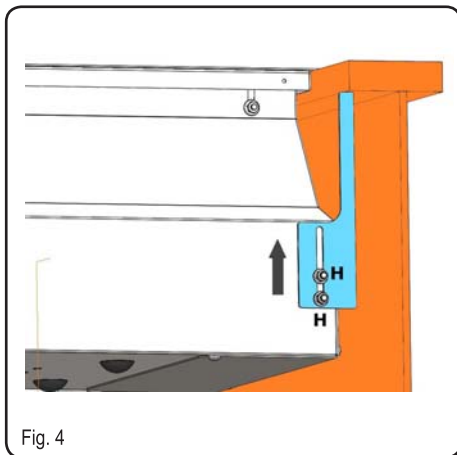

Fig. 4
5. Secure the product inside the furniture by using the specific brackets provided. Proceed to the installation of the brackets in the sides of the product, in the specific hooks, as shown in fig. 4-5. Mount the rear brackets on both sides of the product, lift them up until they touch the support cabinet and then tighten the nuts "H" (fig.4). Then fix the front bracket bringing it to touch on the cabinet by tightening the screws "I", as shown in figure 5. Be careful to pull the screws "I" gently, by hand and without using electric screwdrivers, otherwise you could damage the product.